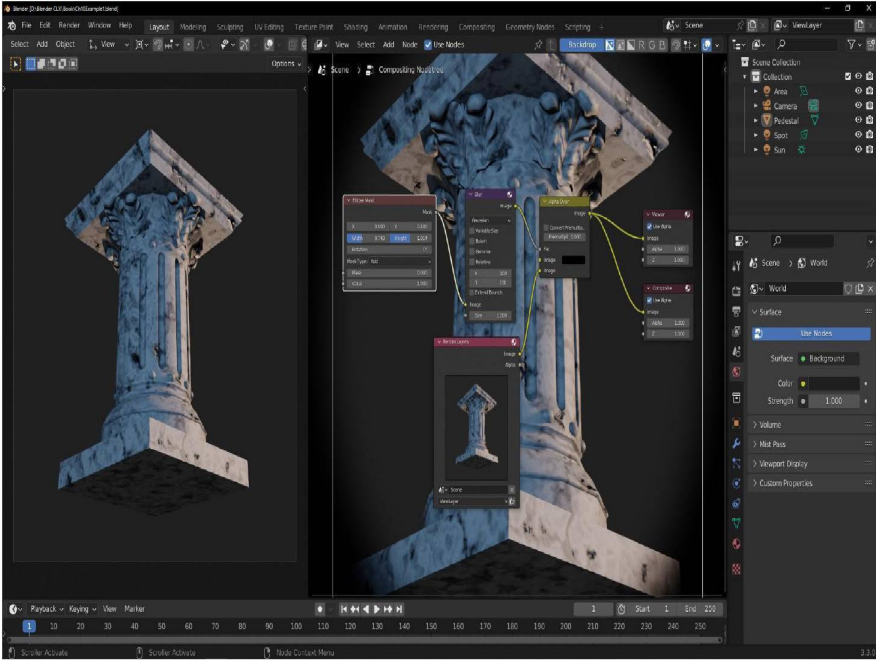

Figure 10.6: Pedestal image composited with a blurred Ellipse Mask, creating a vignette effect
14. Lastly, we will click the circle to the right of the **Image output** on the **Alpha Over node's** upper right side and drag two wires from it, one into the **Image input** on the upper left of the **Composite node**, and one into the **Image input** on the upper left of the **Viewer node** as shown in *Figure 10.6*.